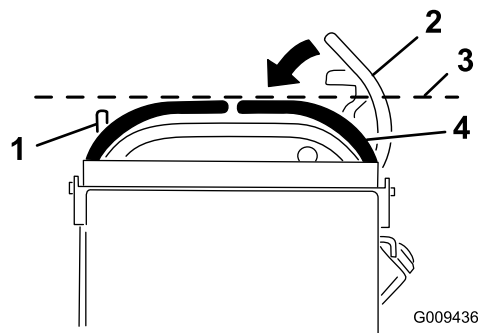

Figure 68
3. Push the motion-control levers down out of the NEUTRAL-LOCK position (Figure 68).
4. Check if the right motion-control lever aligns horizontally with the left motion-control lever (Figure 68).